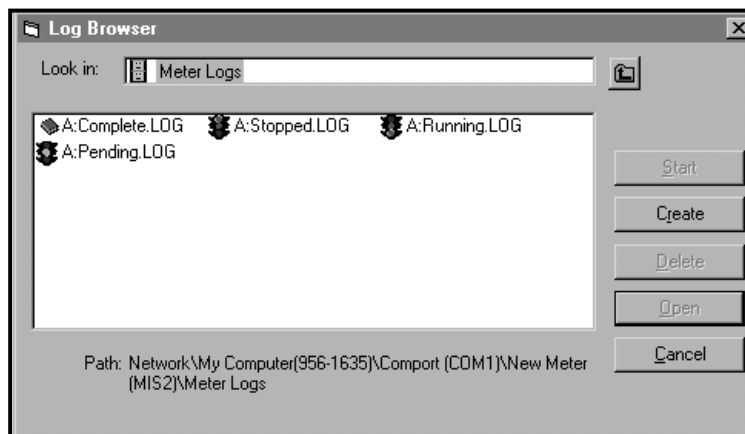

Figure 25: Log Browser Window
3. Double-click on *PC Logs* to access the stored PC logs, or on the *communication port name* and the *meter name* to access the stored meter logs. In either case, the *Log Browser* appears similar to Figure 25.